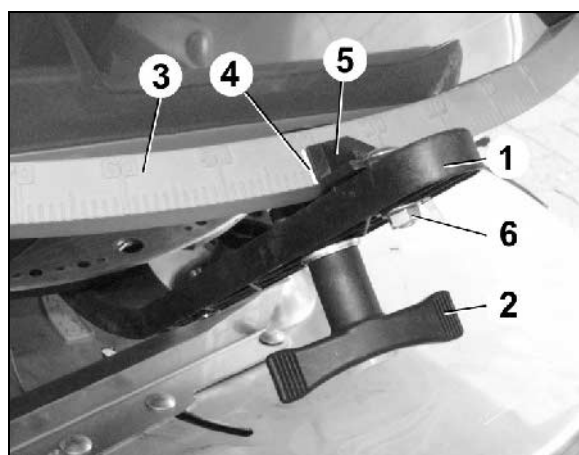

Fig. 83
2. Open the spread rate shutter with the aid of the setting lever (Fig. 83/1).
4. Swivel the setting lever on the scale (Fig. 83/3) until the stop on the pins.
5. Arrest the setting lever with the star knob (Fig. 83/2).
6. Slacken the hex. bolt (Fig. 83/6) Align the pointer (Fig. 83/5) with the scale figure „8“ and fix with the hex. bolt. The read-off edge of the pointer is (Fig. 83/4).